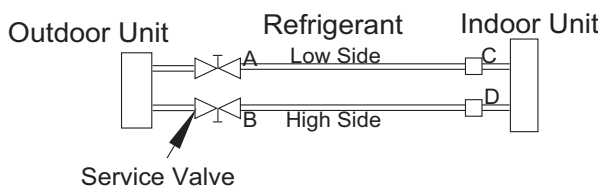

Fig. 6 —Service Valve
1. Completely tighten the flare nuts (A, B, C, D, E). Fully open all circuits service valves. Connect the manifold gage charge hose to the charge port of the low side Master service valve to evacuate all circuits at the same time (see Fig. 6).